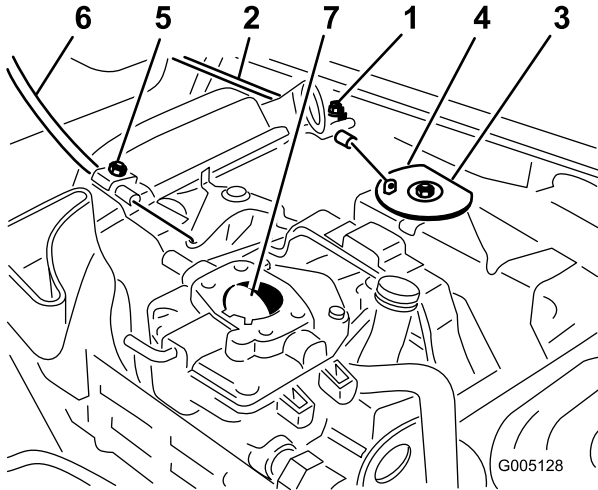

Figure 49
1. Loosen the cable clamp screw securing the cable to the engine (Figure 49).
3. Pull firmly on the throttle cable until the back of the swivel contacts the stop (Figure 49).
3. Pull firmly on the choke cable until the choke butterfly is completely closed, then tighten the cable clamp screw (Figure 49).